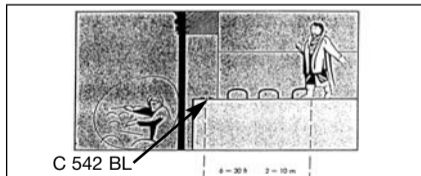

Fig. 3: Easy recording technique.
- Refer to fig. 3. The easiest technique is to place the microphone on the floor about 7 to 35 feet (2 to 10 m) away from the sound source. The ultimate working distance will depend on the physical dimensions of the sound source(s) to be recorded and the specific situation at the recording location.